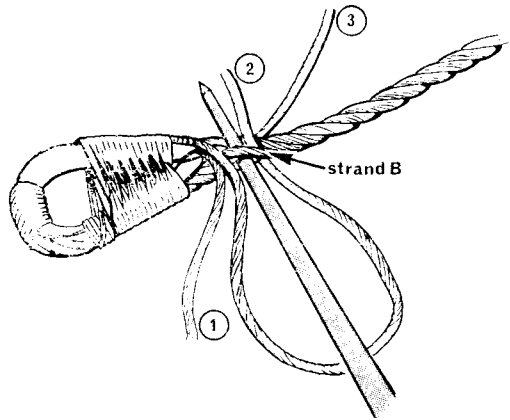

Fig 9.7 Splicing a Hard Eye (3)
- Locate the strand on the standing part nearest to where the first tucking strand enters the lay of the rope—strand B in Fig 9.7—and lever it clear with the ice pick. Take up the tucking strand *nearest to and underneath* the ice pick—strand 2 in Fig 9.7. Tuck this strand, against the lay, under strand B and pull taut. Ensure that the strand does not kink or unlay whilst being pulled taut.